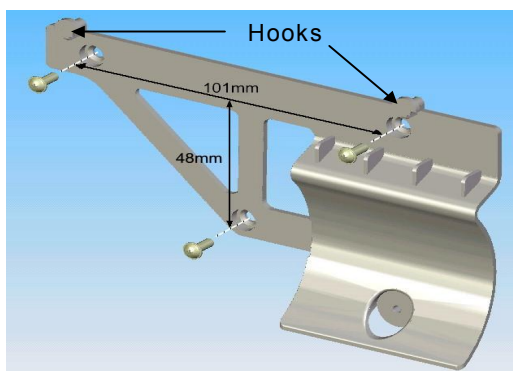

Figure 4: Bracket Mounting
1. Mount the VLT bracket to the wall with three screws, as shown in Figure 4.
2. Hang the VLT on the two mounted bracket hooks, as shown in Figure 4.